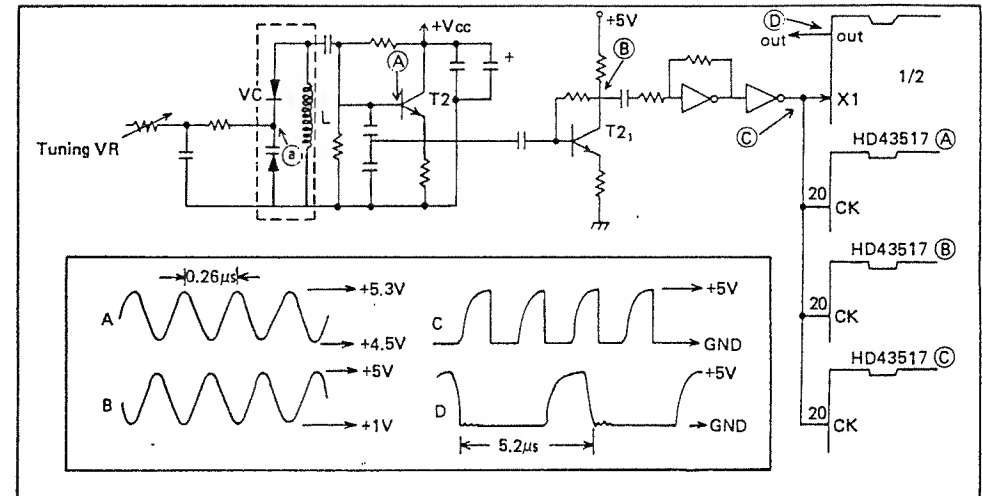

Fig. 7-2
The circuit generates clock pulse which is fundamental pulse for the LSI's. In Fig. 7-2 within the dotted line is a resonance circuit. The resonance frequency 4 MHz depends on the inductance L and the capacitance VC. VC is a variable capacitor whose capacity varies by the voltage at the point ①. Voltage of the point ① is varied by the turning VR.